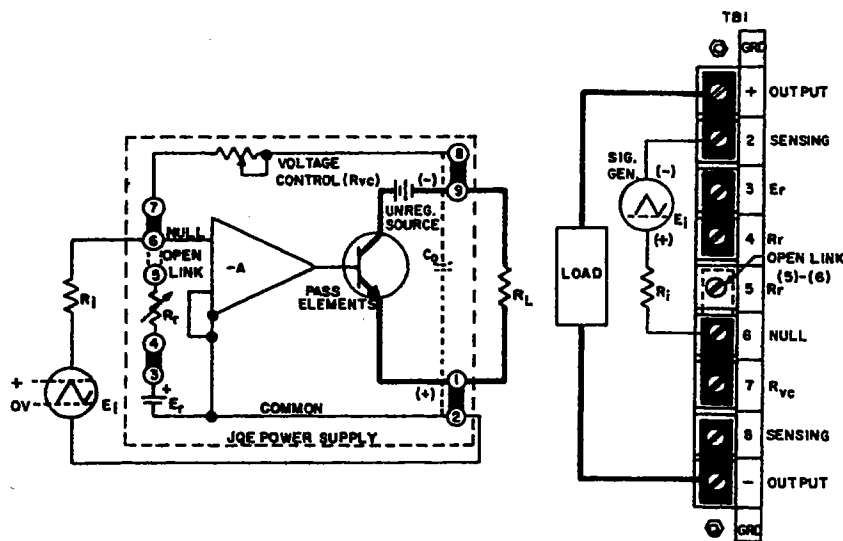

FIG. 3-9 JQE 1/4 Rack IN THE OPERATIONAL AMPLIFIER MODE.
**3-27** As seen from the expression (Eq. 5), if the ratio  $R_{VC} / R_r$  (which represents the closed loop gain of the system) is held constant,  $E_o$  will vary linearly with  $E_r$ , the external programming voltage. The above expression (Eq. 5) is seen to be the transfer function for an operational amplifier in the inverting configuration. The voltage programmed power supply does in fact become a unipolar power amplifier with very high power gain but with limited frequency response. (Refer to FIG. 3-9). The limited frequency response is largely due to the effect of the output capacitor ( $C_o$ ), acting as a low-pass filter and preventing the output voltage ( $E_o$ ) from varying rapidly. The output voltage may be varied over the full range, bounded on the high end by the maximum rated value. A practical example to illustrate component selection for remote control by voltage is given in paragraph 3-28.
3-28 Example: A Kepco Model JQE 36-3M is to be voltage programmed over its full range (0 to 36V) by a triangular, positive increasing source with a peak output voltage ( $E_1$ ) of 2 volts, which is able to deliver at least 1 mA control current. Since the required voltage gain is:  $E_o/E_1 = 36/2 = 18$ , the ratio  $R_{VC}/R_i$  must also equal 18. If the internal voltage control is retained, in this case, since  $R_{VC} = 40K$  ohms,  $R_i$  must equal  $40K/18 = 2.22K$  ohms. FIG. 3-9 shows the JQE Power Supply as an operational amplifier and the necessary rear barrier connections for this mode of operation. As the input source varies from 0 to 2V, the JQE output voltage will change from 0 to 36 volts.